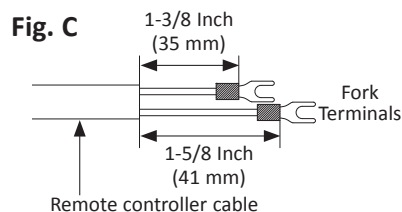

Fig. D-1
4. Tighten the two "Fork terminals" beneath the two "Remote controller terminal" screws on the back of the main body. (Fig. D-1)